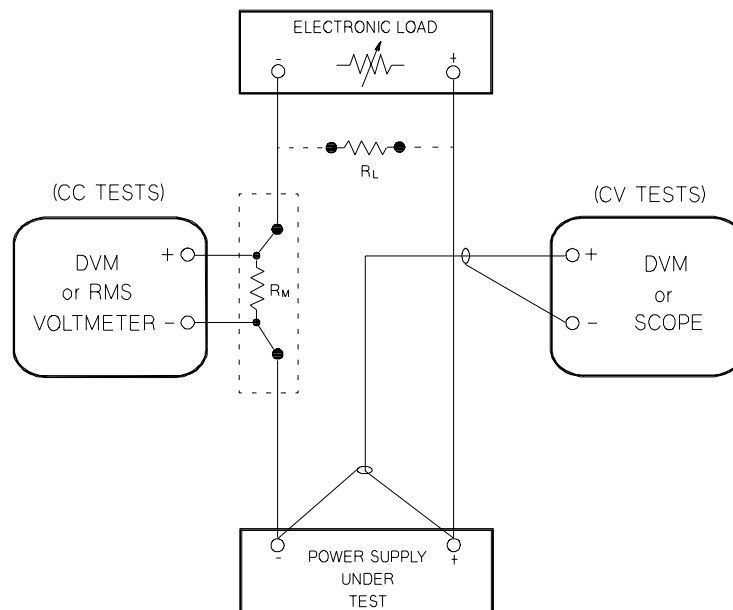
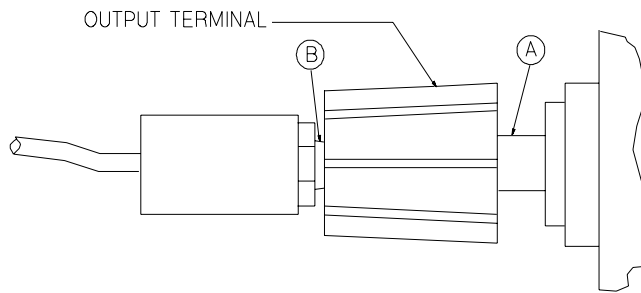

Figure 3-1. Performance Verification Test Setup
Figure 3-2. Front Panel Terminal Connections (Side View)
To eliminate output current measurement error caused by the voltage drops in the leads and connections, connect the current monitoring resistor between the (-) output terminal and the load as a four-terminal device. Connect the current-monitoring leads inside the load-lead connections directly at the monitoring points on the resistor element (see R_M in Figure 3-1).
- 1 Turn off the power supply and connect a digital voltmeter between the (+) and (-) terminals of the output to be tested as shown in Figure 3-1.
- 1 Turn off the power supply and connect a digital voltmeter between the (+) and (-) terminals of the output as shown in Figure 3-1.
- 4 Operate the electronic load in open mode (input off). Record the output voltage reading on the digital voltmeter immediately. The difference between the digital voltmeter readings in steps (3) and (4) is the CV load regulation. The difference of the readings during the immediate change should be within the limit of (4 mV)* or (7 mV)**.
- 1** Turn off the power supply and connect a digital voltmeter between the (+) and (-) terminals of the output to be tested as shown in Figure 3-1.
- 6** Adjust the transformer to high line voltage (127 Vac for nominal 115 Vac, 110 Vac for nominal 100 Vac, or 253 Vac for nominal 230 Vac). Record the voltage reading on the digital voltmeter immediately. The difference between the digital voltmeter readings in steps (5) and (6) is the CV line regulation. The difference of the readings during the immediate change should be within the limit of (4 mV)* or (7 mV)**.
When measuring Vrms ripple and noise, the monitoring device should be plugged into the front of the terminals at (B) in Figure 3-2. Use the coaxial cable and BNC female to banana plug adapter to connect the monitor device to the power supply. To reduce the measurement error caused by common mode noise, it is recommended that you use a common mode choke between the cable and the BNC adapter. The common mode choke is constructed by inserting coaxial cable into Ferrite Toroidal core. The load resistor should be connected to the terminal at (A) in Figure 3-2. Twisted leads between the load resistor and the power supply helps reduce noise pickup for these measurements.
- 1 Turn off the power supply and connect the output to be tested as shown in Figure 3-1 to an oscilloscope (ac coupled) between (+) and (-) terminals. Set the oscilloscope to AC mode and bandwidth limit to 20 MHz. Connect a resistive load ($2.0\ \Omega$)* or ($12.5\ \Omega$)** to the terminal at (A) in Figure 3-2.
- 1 Turn off the power supply and connect the output to be tested as shown in Figure 3-1 with an oscilloscope. Operate the electronic load in constant current mode.